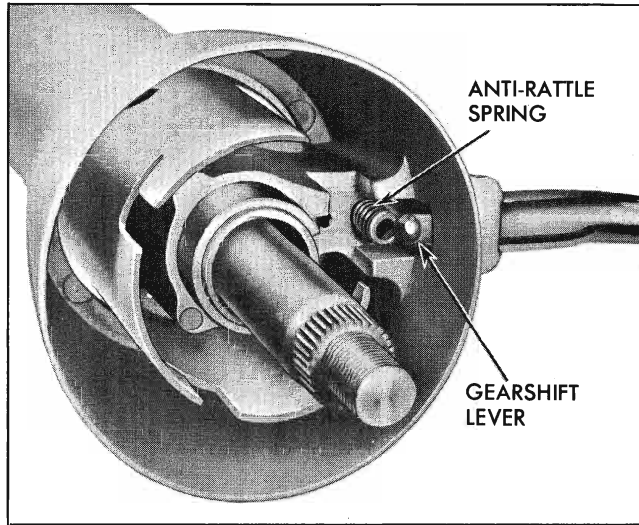

Fig. 9-21 Installing Anti-Rattle Spring
14. Using needle nose pliers, insert gearshift lever anti-rattle spring in depression located in housing (apply grease to spring to prevent squeak), (Fig. 9-21).